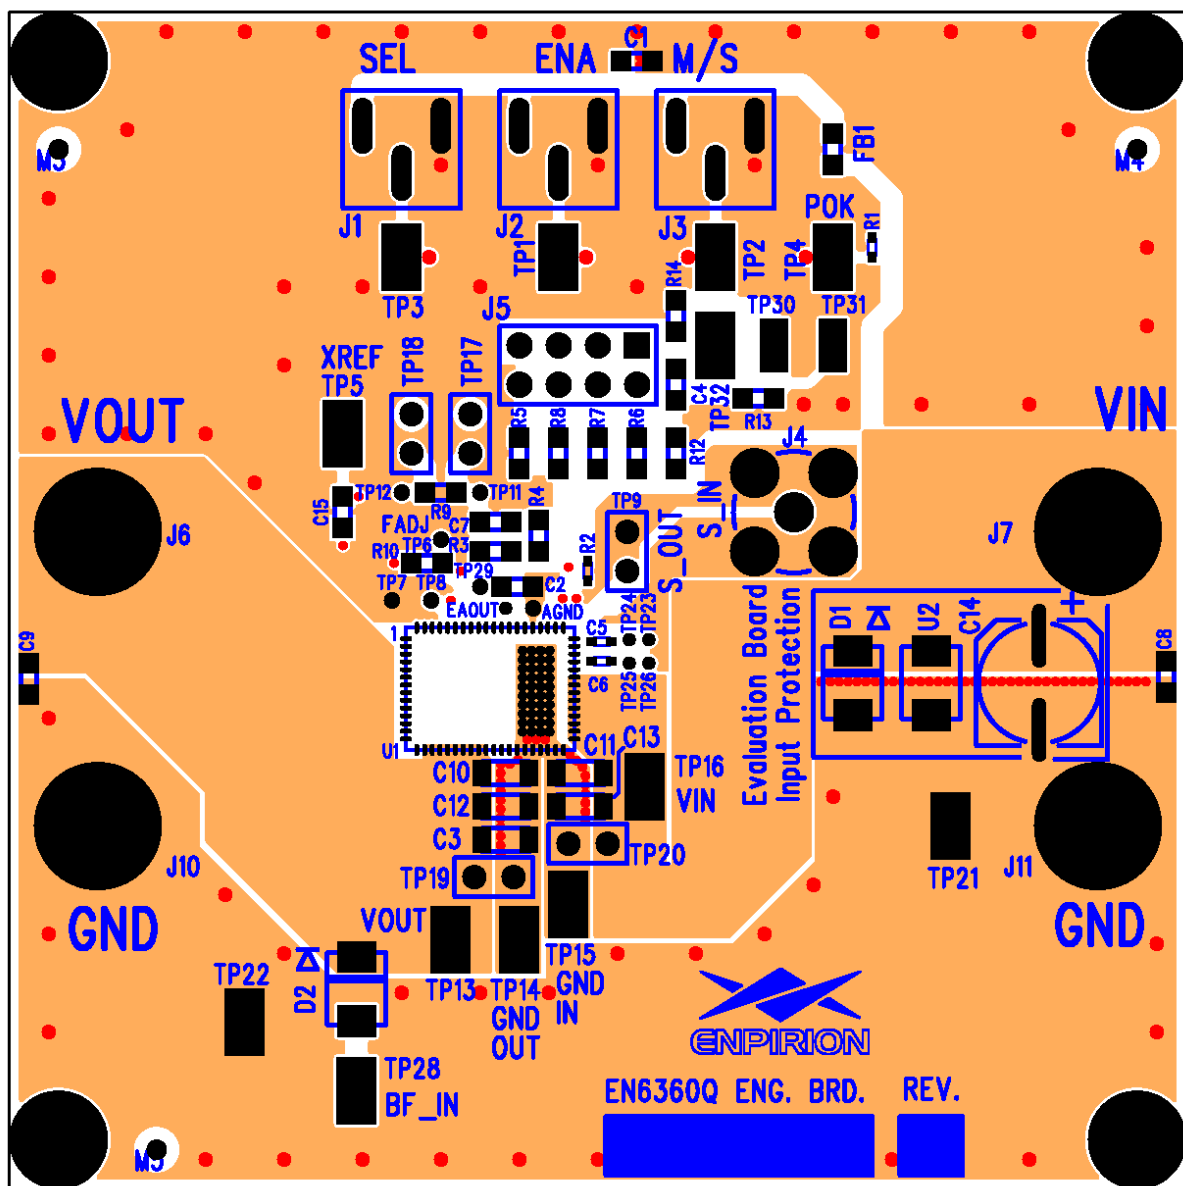

Figure 4: Evaluation Board Layout Assembly Layer.
STEP 5: Connect Power Supply to the input power connectors, VIN (J7) and GND (J11) as indicated in Figure 4 and set the power supply to the desired voltage ($\leq 6.6V$.)
STEP 6: Connect the load to the output connectors VOUT (J6) and GND (J10), as indicated in Figure 4.